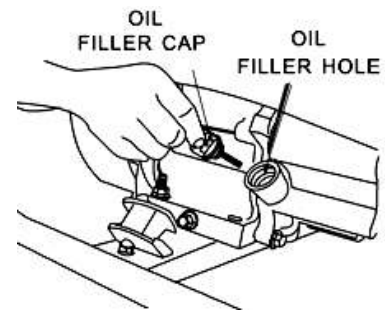

Figure 11 - Checking the Oil
2. Unscrew the oil filler/dipstick cap from the engine as illustrated in Figure 11.